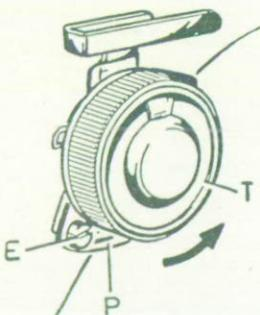

Fig. 12
- To loosen the upper thread tension, turn button « T » (Fig. 12) in the direction of the arrow. By turning button « T » in the opposite direction the tension will be increased.
NOTE: When sewing on hard or thick fabrics, it is advisable to loosen screw « E » (Fig. 12) and slightly move small plate « P » in the direction opposite to that of the arrow.